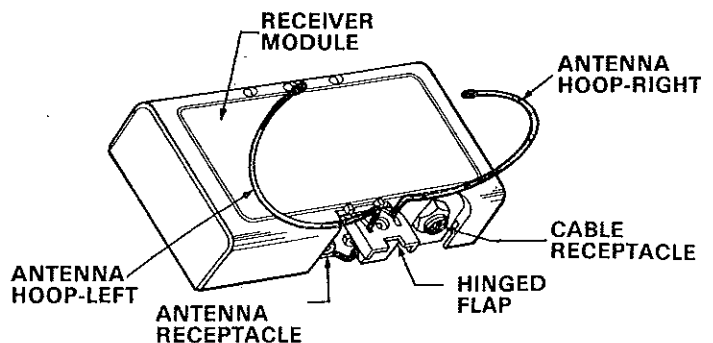

Fig. 5
Step 6. Assemble receiver module. Remove screw from bottom of the receiver and open the hinged flap. Feed the antenna hoops thru the openings in the hinged flap see Fig. 5. Next, insert the hoops into their respective receptacles, reposition the flap and securely fasten with the screw.